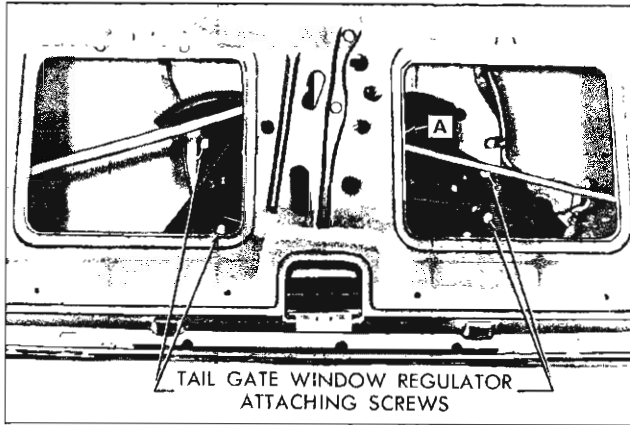

Fig. 90—Tail Gate Window Regulator
2. To correct a condition where the glass is "cocked" in the glass run channels, loosen window regulator attaching screws (fig. 90), rotate regulator assembly clockwise or counterclockwise, as required, to eliminate "cocked" condition.
2. Detach tail gate lock remote control right connecting rod from remote control at "A" (fig. 90).
4. Remove regulator attaching screws through access holes at locations shown in Figure 90. Remove regulator assembly through large access hole.